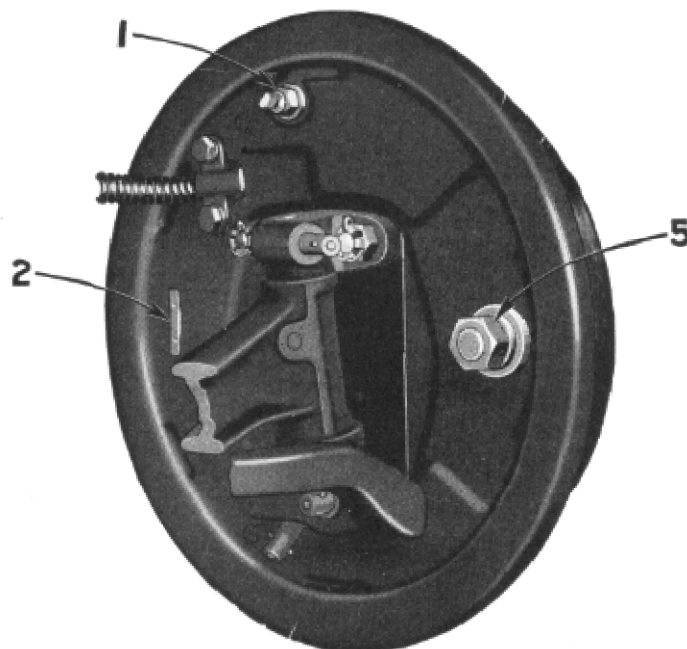
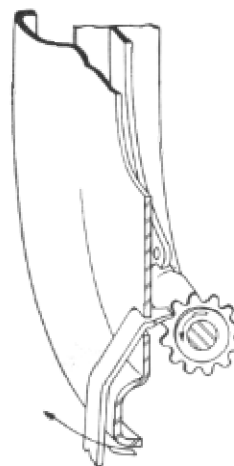

Figure 1—Left Front Brake
Figure 2
See that housing cover nuts (A) and jam nut (E) Fig. 1, are tightened *securely*. Turn hand wheel to either extreme and back an eighth of turn. Gripping ball arm at hub (B) Fig. 2, shaft should rotate freely without particle of end play. Adjust as required by means of adjustment screw (C) Fig. 3, at side of housing next to motor. Be sure to lock *securely* with locknut (D) Fig. 3, and reinspect end play and freedom.
(A) Fig. 1, one quarter turn and eccentric sleeve jam nut (E) Fig. 1, one-half turn. Turn the eccentric adjusting sleeve (F) Fig. 1, clockwise very gradually, checking at each movement the amount of lost motion still existing at the ball arm. (Adjust to point where lash can be felt at end of ball arm.) Be sure to finish movement of eccentric adjustment sleeve (F) in clockwise direction. Turn hand wheel throughout full travel to test for free operation. If too tight, turn eccentric adjusting sleeve (F) counterclockwise to free and readjust as above more carefully. Tighten eccentric adjusting sleeve jam nut (E) **SECURELY FIRST** and follow likewise with housing cover nuts (A).
**THE ECCENTRIC ADJUSTMENT:** (Fig. 1.) (This adjustment centralizes the brake shoes in the brake drum.)
**THE ADJUSTING SCREW:** (Fig. 2.) (This adjustment centralizes the clearance between the brake lining surface and brake drum to compensate for lining wear.)
6. **AT ALL WHEELS:** Expand the brake shoes by turning notched adjusting screw toward rim of backing plate, using Bendix adjusting tool or screwdriver (inserted through backing plate), moving outer end of tool toward center of wheel. (Fig. 2.) When light brake drag is felt on brake drum, release adjusting screw until brake drum is completely free of brake drag.